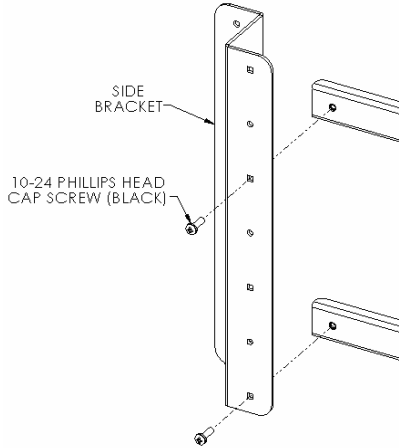
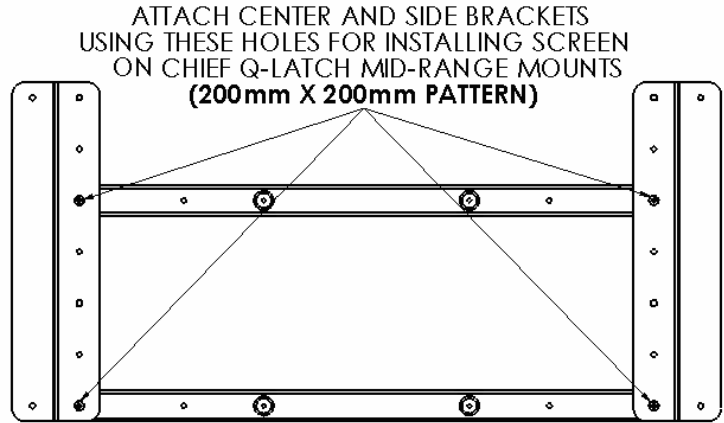

Figure 4
Figure 5
3. **Side Bracket Assembly:** Attach center brackets to side brackets using black 10-24 phillips screws (see Figure 4 & Figure 5). Use the square holes for a 200mm x 200mm button pattern (used with all Chief Q-latch mid-range mounts).